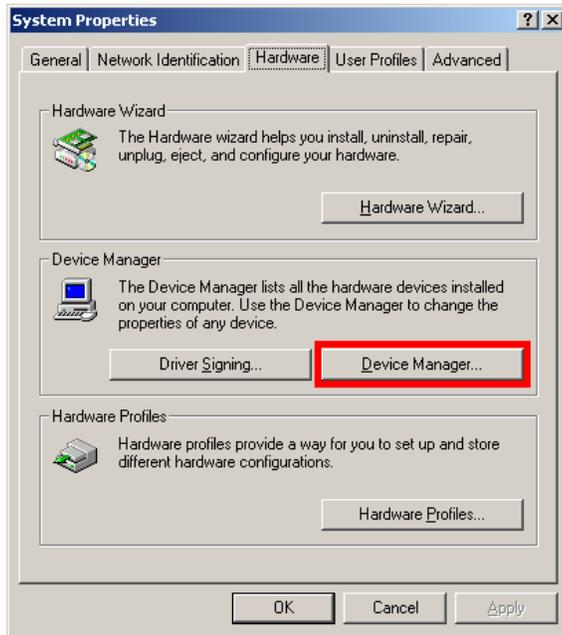

Figure 6-21: Device Manager Tab
Step 3: Click the Device Manager tab (Figure 6-21).